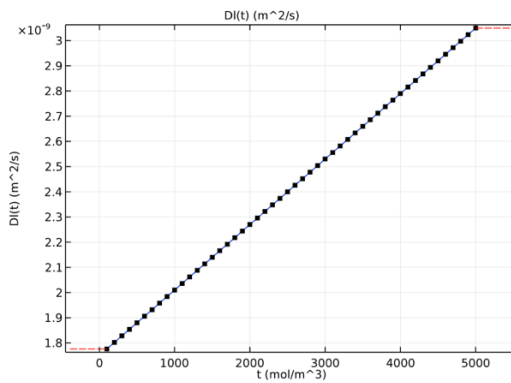
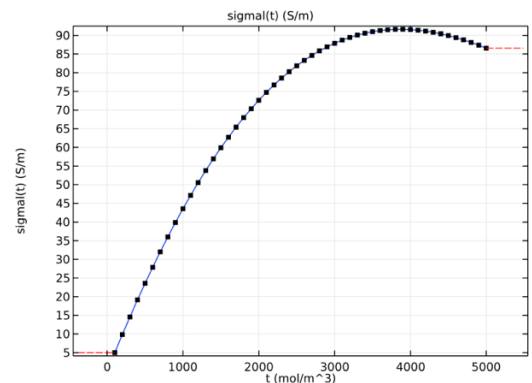

Figure 4. Electrolyte diffusion coefficient as a function of electrolyte concentration.
Figure 5. Electrolyte conductivity as a function of electrolyte concentration.
The electrolyte diffusion coefficient and the electrolyte conductivity vary with the concentration according to Figure 4 and Figure 5, respectively.
3. **Electrolyte diffusion coefficient and conductivity** vs concentration (Figures 4 & 5)